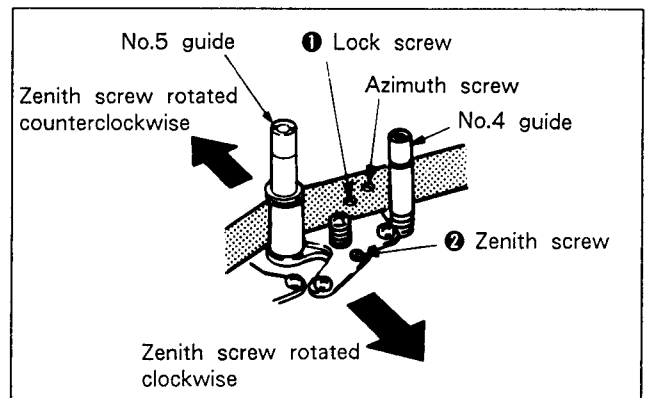
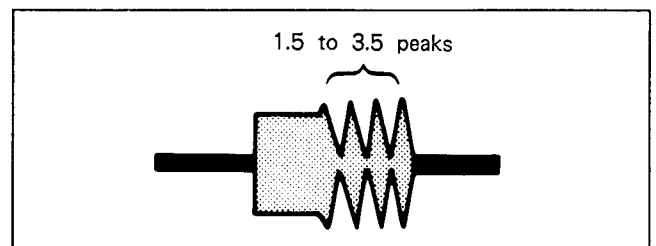

Fig. 7-78.
Fig. 7-79.
- 1) Play back the alignment tape (WR5-1C) for tracking and rotate No.4 guide and No.5 guide counterclockwise in order to make the tape running on the exit side free. (See Fig. 7-78.)
- 2) Confirm that the RF waveform on the exit side has 1.5 to 3.5 peaks. If not, readjust as follows. (See Fig. 7-79.)
- i) Rotate the lock screw ❶ counterclockwise to loosen.
- ii) Slowly rotate the zenith screw ❷ 45° at a time and wait until the RF waveform varies.
- iii) Rotate the lock screw ❶ clockwise to tighten. (See Fig. 7-78.)